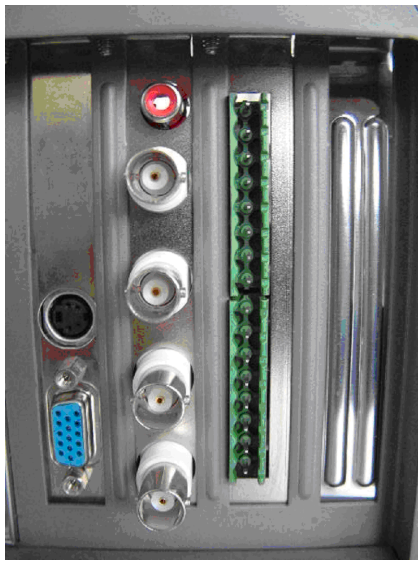

Figure 1
1. Before installing the IOC-0404P into the system, remove the terminator housing from the IOC-0404P as illustrated in Figure 1.